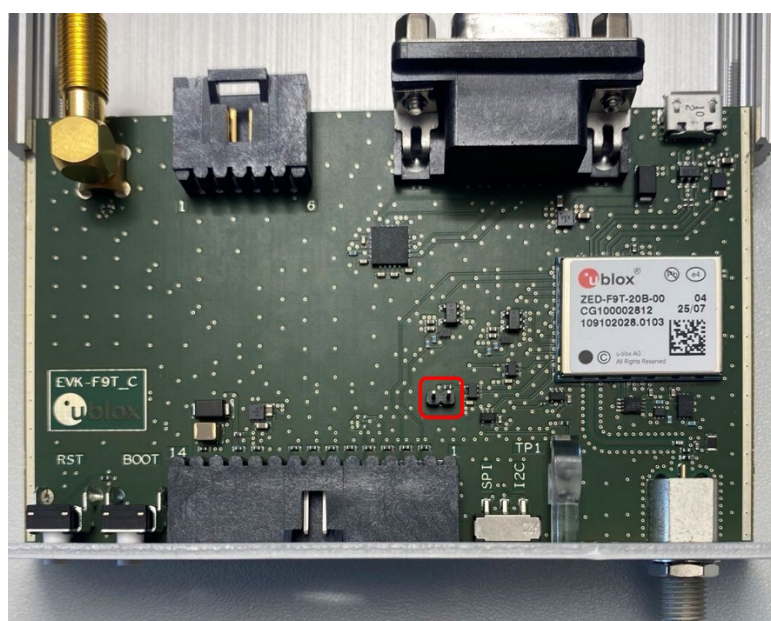

Figure 4 EVK-F9T-20 evaluation unit PCB layout
- J7 jumper can be shorted to allow higher output current when driving low impedance loads. User must open the evaluation kit to access the J7 jumper as shown in Figure 4.